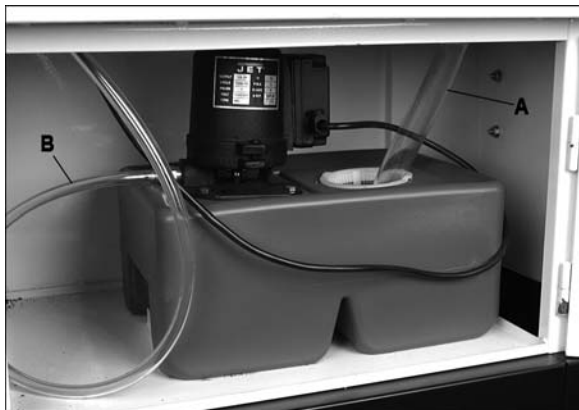

Figure 10
1. Remove coolant return hose (A, Figure 10) from filter cup, and slide tank out of saw base.